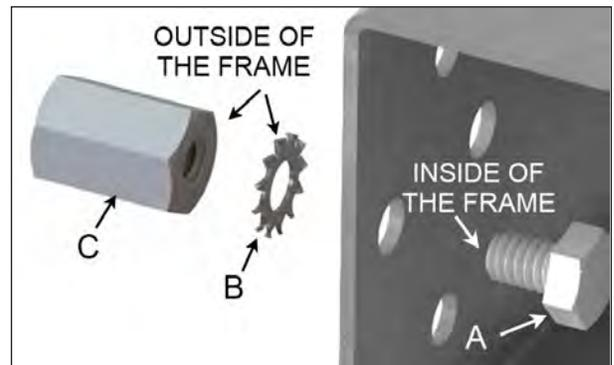

FIGURE 76: STANDOFF INSTALLATION
8. Install the 1/4-20 X 3/4" hex standoffs, 1/4" lock washer internal/external teeth and the 1/4" hex cap screw 3/8" long in the holes drilled in steps 4 and 5 in the order shown in Figure 76.